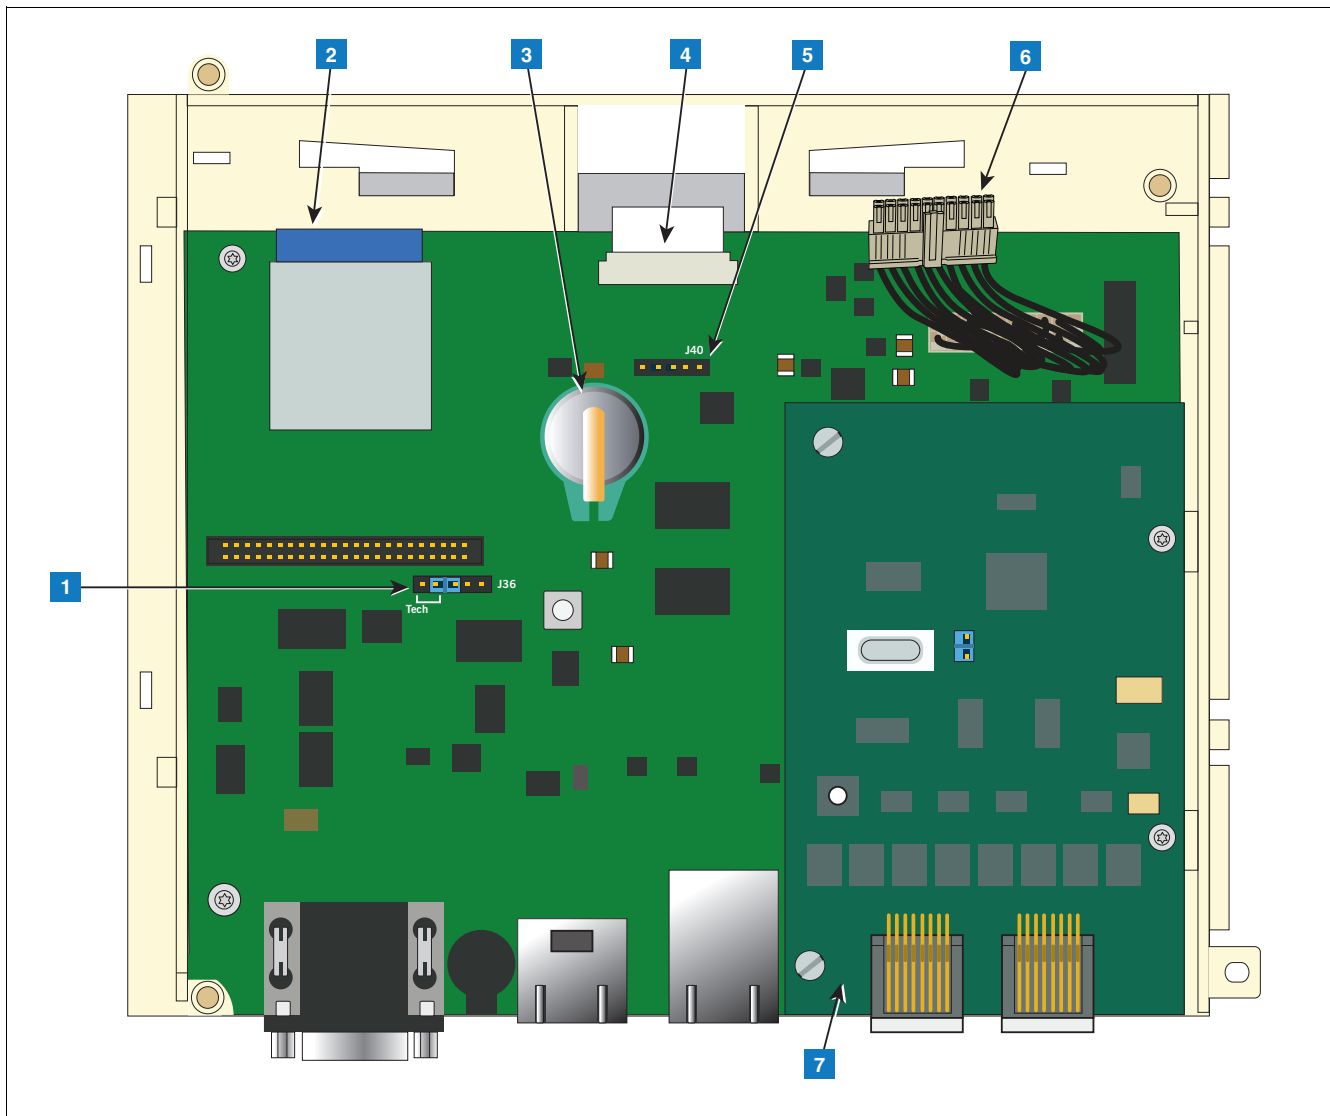

Figure 3. Component Locations Underside Of Display/CPU Board Ass'y.
LEGEND FOR NUMBERED BOXES IN Figure 3
In non-display consoles the Ack/CPU assembly is, except for the display screen itself, essentially the same as the Display/CPU assembly. The Display ribbon cable connects to a different CPU board connector than the Ack switch panel cable plug (see Items 4 and 5 in Figure 3). Other than the GUI display and Ack switch panel difference, the additional removal procedures discussed in this section are identical.
With the Display/CPU assembly removed, set it on a clean surface, display side down. The SD card (Item 2 in Figure 3) is removed by pushing in gently on the end of the card and quickly releasing it so it springs free of its enclosure's latch.
3. Locate the Features iButton (Item 3 in Figure 3).